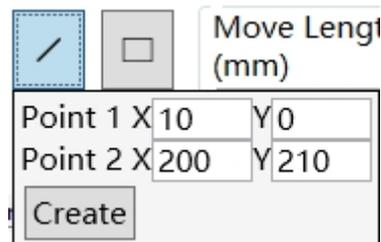

Fig. 4.3.2e Straight Line Creation Pop-up Window
② Right-click to open the coordinate input window, and pop up the X and Y coordinate input boxes for point 1 and point 2. Enter the coordinates of two points in the box. After clicking "Create", a straight line will be created by determining the rule of a straight line with two points. As shown in Fig. 4.3.2e and 4.3.2f below.